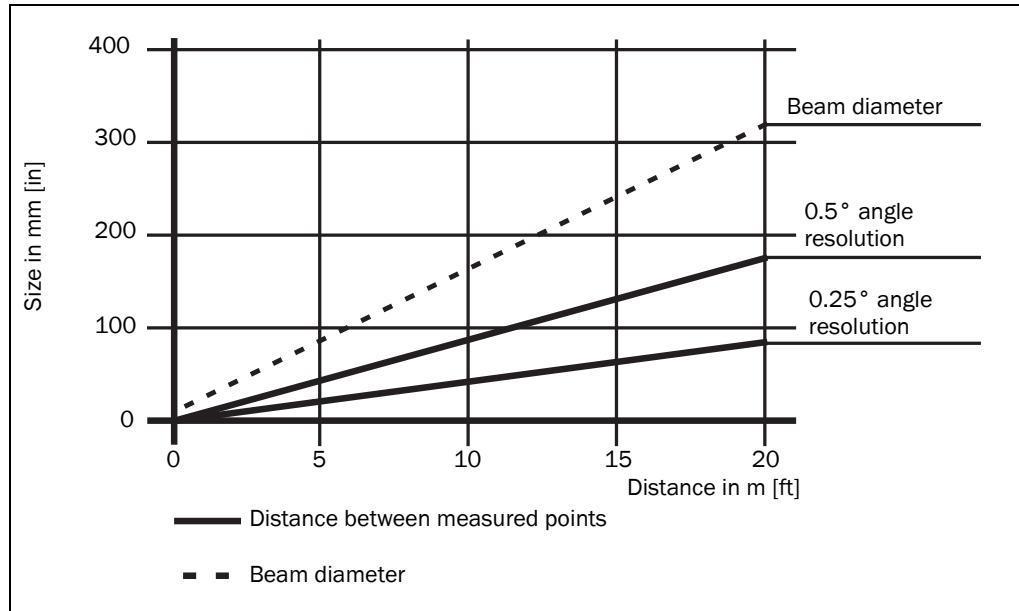

Fig. 16: Beam diameter and distance between measured points at 0 to 20 m (0 to 65.62 ft)
The diagram in Fig. 16 shows the beam diameter and the measured point spacing as a function of the distance from the LMS.
Example for angular resolution 0.25° in Fig. 16
Example for angular resolution 0.50° in Fig. 16
- For beam diameter and measured point spacing as a function of the distance from the LMS see the diagram in Fig. 16.